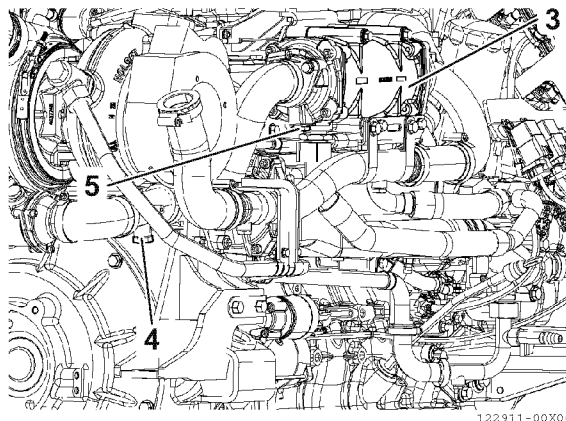

Figure 5
3. Repeat the procedure for the anodes (**Figure 5, (4)**) and (**Figure 5, (5)**) located close to the seawater / oil heat exchanger (**Figure 5, (3)**).
- Tighten the anode (**Figure 5, (4)**) to the specified torque: 25 N·m.
- Tighten the anode (**Figure 5, (5)**) to the specified torque: 30 +/- 3 N·m.